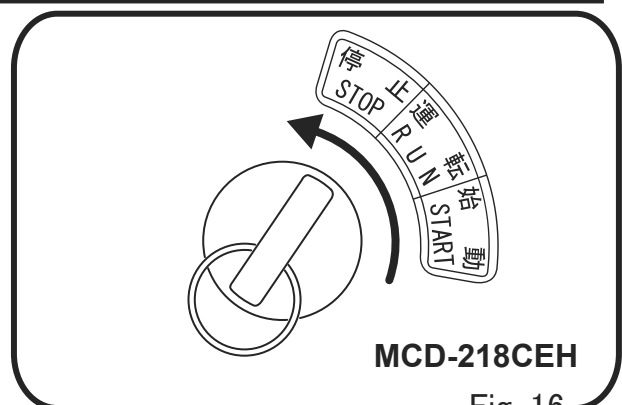

Fig. 16
- 9.1. Before shutting off the engine, allow the engine to idle for 2-3 minutes and then press the stop button until the engine is completely stopped. Electric starter type: turn the key to STOP position.) (Fig. 16)